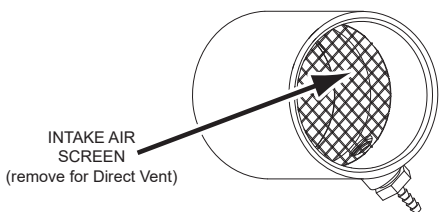

Figure 21. Intake Air Screen
13. Ensure the Intake Air Screen on the Intake Air Connection to the water heater is removed before connecting the intake air pipe to the water heater. See **Figure 21** (page 35).